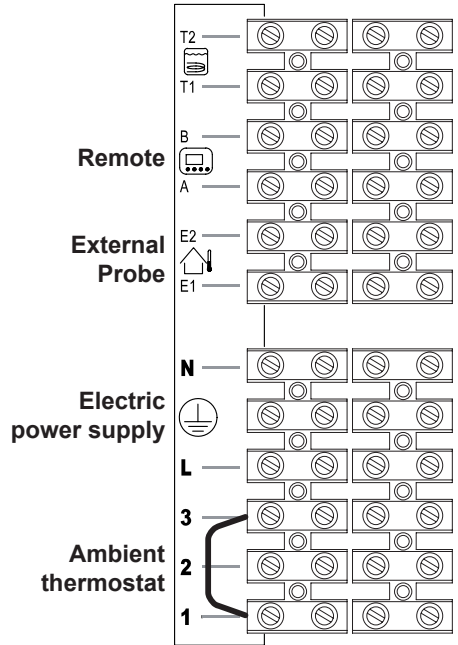
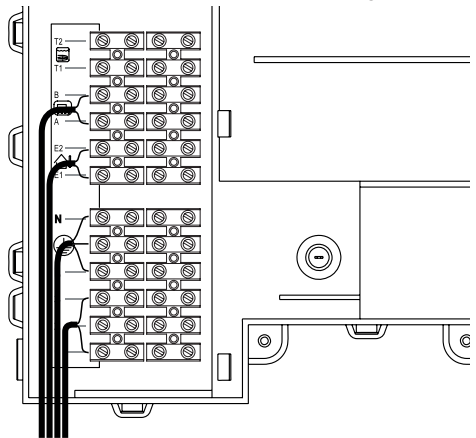
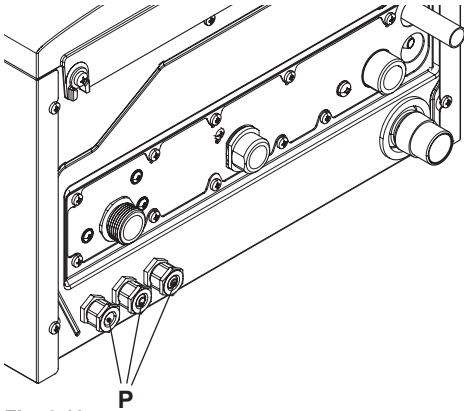

Fig. 6.17
Fig. 6.18
Fig. 6.19
- Connect the electric power supply cable coming from the fused spur isolation switch to the power supply terminal block of the boiler Fig. 6.17 keeping the same connections for the live (brown wire) and the neutral (blue wire). External 3A fuse or fused plug with same current rating is recommended.
The route of the boiler and ambient thermostat's electric power supply cable or wires must follow the route indicated in Fig. 6.18.
Allow the cables to exit the boiler by using the relevant cable clamps "P" (Fig. 6.19).
Use the clamps indicated in Fig. 6.17 to connect the ambient thermostat.
Use the ambient thermostat's clamps indicated in Fig. 6.17 and Fig. 6.18 to connect the zone valve. Insert the electric cables of the zone valve's micro switch contacts in clamps "1 and 3" of the ambient thermostat's terminal block as in Fig. 6.18.
The route of the boiler and ambient thermostat's electric power supply cable or wires must follow the route indicated in Fig. 6.18. Allow the cables to exit the boiler by using the relevant cable clamps "P" (Fig. 6.19).
The route of the external probe's connection wires must follow the route indicated in Fig. 6.18.
The route of the remote control cable must follow the route indicated in Fig. 6.18.
relevant cable clamps "P" (Fig. 6.19).